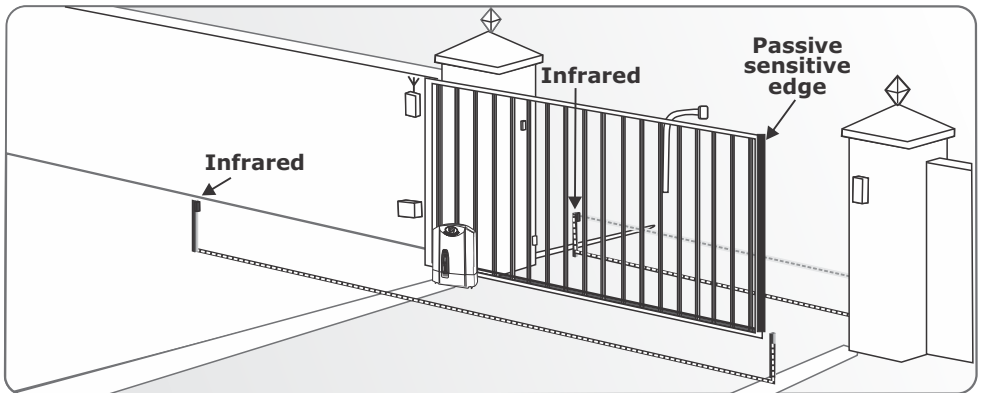

FIGURE 3. INFRARED BEAMS AND PASSIVE SENSITIVE EDGE
4. Safety beams are installed on either side of the driveway, as shown in Figure 3
5. Sensitive edges are typically installed on all shearing edges of the gate, as shown in Figure 3